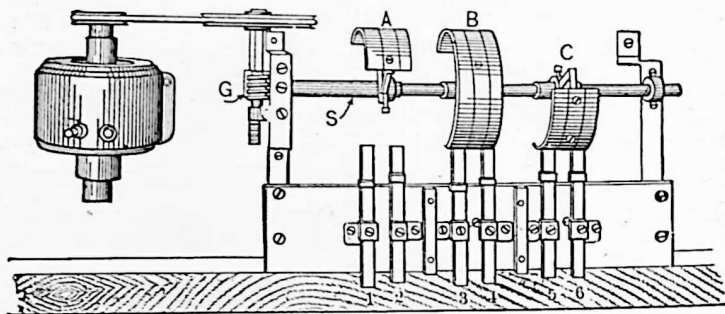

FIG. 215. Sign Flasher.
Fig. 215 shows mechanism for producing so-called **flashing** signs. By means of a motor connected through the gears *G*, the shaft *S* is made to turn slowly. The circuit through the lamps in one part of the sign is brought to the brushes (1) and (2). As the shaft turns, the brass or copper arc *A* comes momentarily into contact with these two brushes and this set of lamps flashes up. As soon as the arc *A* leaves these brushes, of course this set of lamps goes out. Similarly, other sets of lamps, connected through brushes (3) and (4) and (5) and (6), are flashed on and off by the arcs *B* and *C*. By changing the relative positions on the shaft of the arcs *A*, *B* and *C*, any desired change in the time and sequence of the flashing of each set of lamps can be made. Thus all the lamps may flash at once and go out at once. One may flash just as another goes out, or they may flash one after the other, but each set remain on until all are lighted, and then all go out at the same instant. These effects are produced merely by varying the lengths or the positions of the arcs on the shaft.
**Prob. 19.** Draw a diagram showing the complete wiring for flashing 3 sets of lamps, one after the other. Use the apparatus shown in Fig. 215.